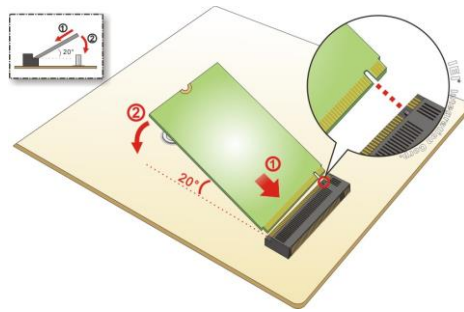

Figure 3-2: Inserting the M.2 Module into the Slot
Step 3: Line up the notch on the module with the notch on the slot. Slide the M.2 module into the socket at an angle of about 20° (**Figure 3-2**)